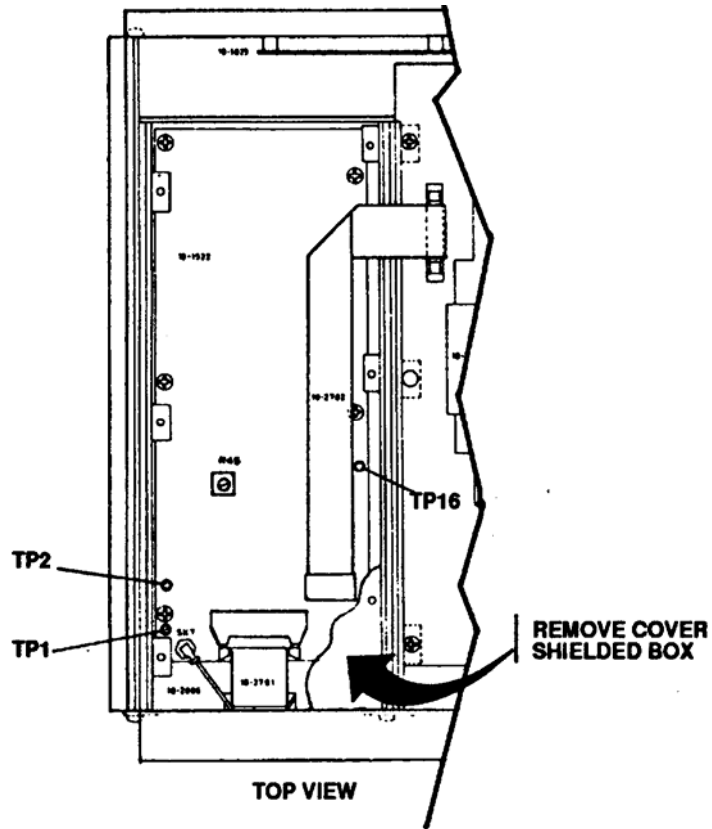
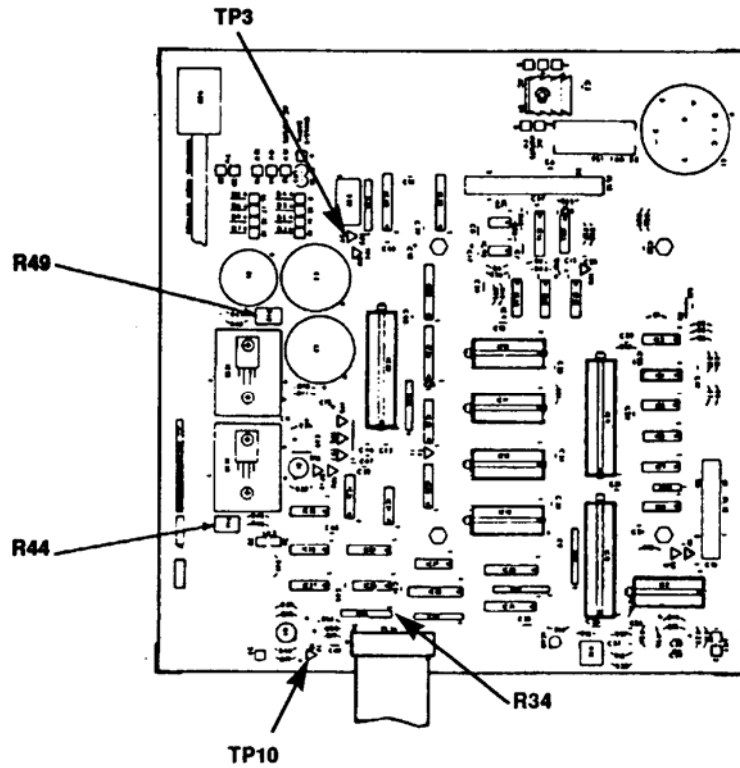

Figure 1. Top view of module assembly.
Figure 3. View of underside of module assembly.
2Figure 1.
**a** Connect digital multimeter positive lead to TP16 and negative lead to TP1 (fig. 1). If digital multimeter does not indicate +15.0 (±0.5) V, adjust R44 (fig. 3) for a +15.0 V indication (R).
**b.** Move positive lead to TP2 (fig. 1). If digital multimeter does not indicate -15.0 (±0.5) V, adjust R49 (fig. 3) for a -15.0 V indication (R).
**c.** Move positive lead to TP3 (fig. 3). Digital multimeter will indicate + 5.0 (±0.25) V.
- d. Move positive lead to pin 1 of R34 (fig. 3). Digital multimeter will indicate +9.3 ( $\pm 1.0$ ) V.
- e. Move positive lead to TP10 (fig. 3). Digital multimeter will indicate +4.9 ( $\pm 0.4$ ) V.